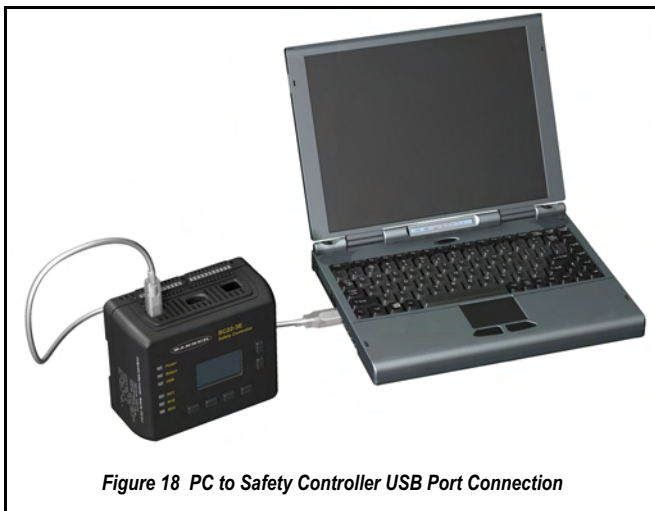

Figure 18 PC to Safety Controller USB Port Connection
The *Safety Controller* is connected to a PC by way of a USB A/B cable (Figure 18 on page 25). The cable is also used to connect the PC to the *SC-XMP Programming Tool* (Figure 19 on page 25 refers) in order to download a configuration to the *XM Card*.
- 1) Referring to Figure 18 on page 25, connect USB A/B cable to *Safety Controller* and PC with *PCI* configured software loaded.